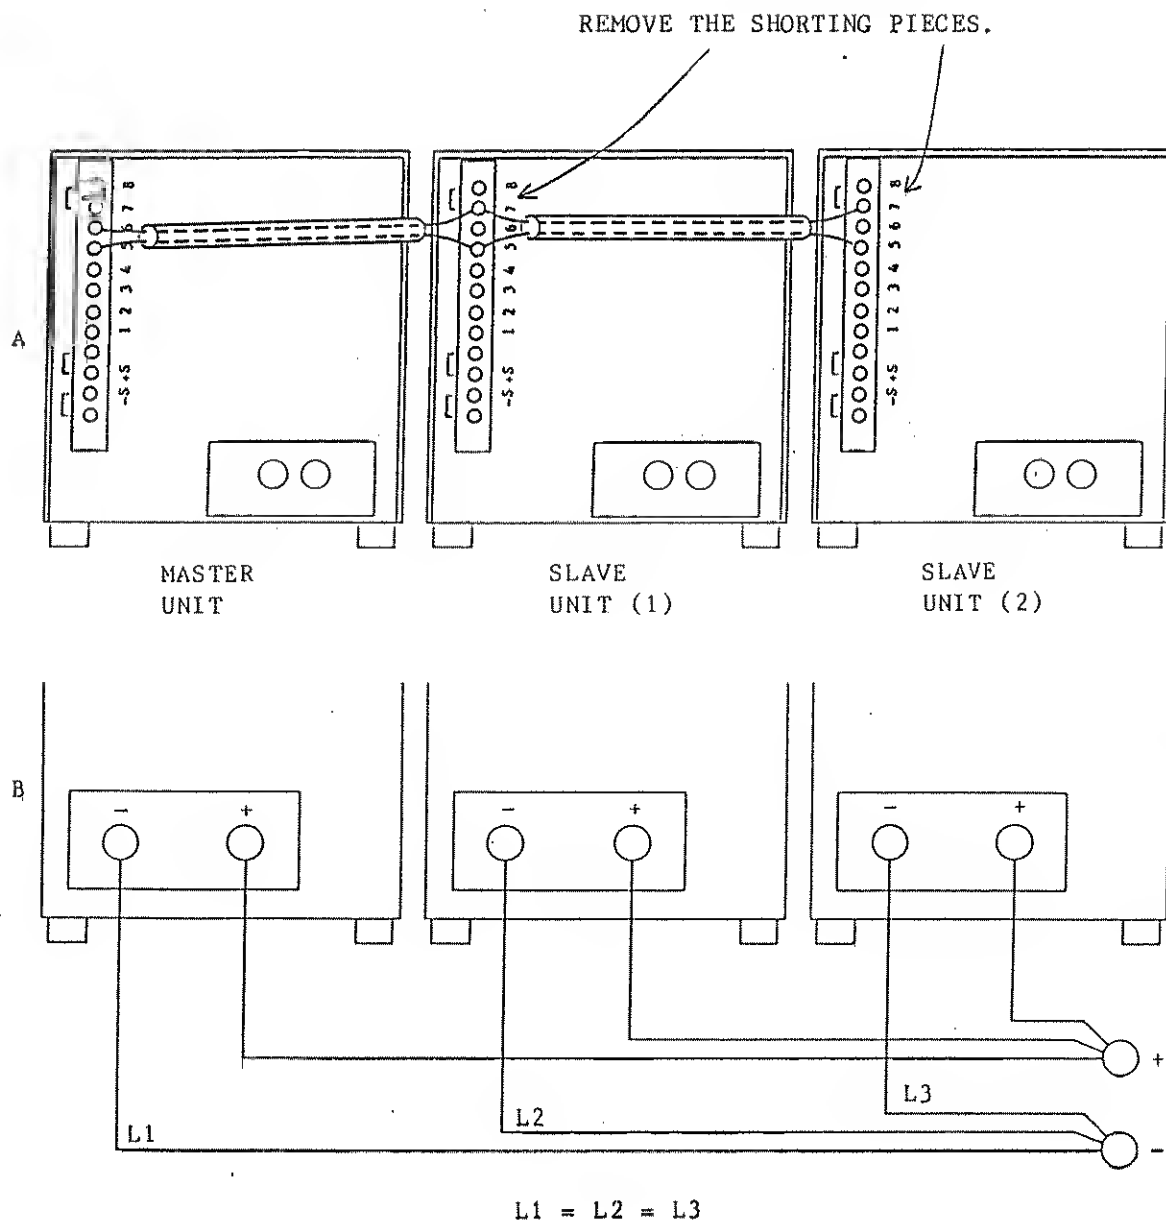

Figure 2.10.1
Two or more PLZ 152W's may be operated in parallel using any unit as a master and other(s) as slave(s). This operation is also referred to as Single-control/parallel operation. See Figure 2.10.1.
7. Interconnect the Rear Panel Strip terminals 5 and 7 between all subsequent slave units. DO NOT MIX UP LEADS!. See Figure 2.10.1 (A).
8. Connect the DC Source to be loaded to the DC INPUT terminals as shown in Figure 2.10.1 (B).